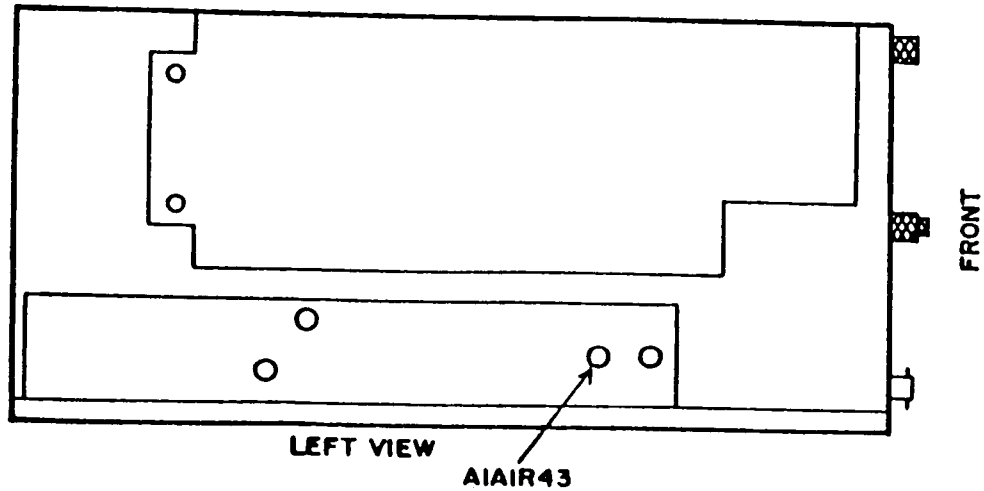

Figure 3. Test instrument - left view.
(36) Set **HI LVL VX100-NORM** switch to **NORM** and **BFO-RF LEVEL** control to **-80 dBm**. Receiver system will indicate between 84 and 96 dB.
**b. Adjustments.** Adjust A1A1R43 (fig. 3) until receiver system indicates 70 dB (R).
(1) Adjust A1A1R43 (fig. 3) until spectrum analyzer indicates signal at the reference established in **a(5)** above (R).
(2) This adjustment may have to be set for best in-tolerance compromise between 100 and 999 MHz.